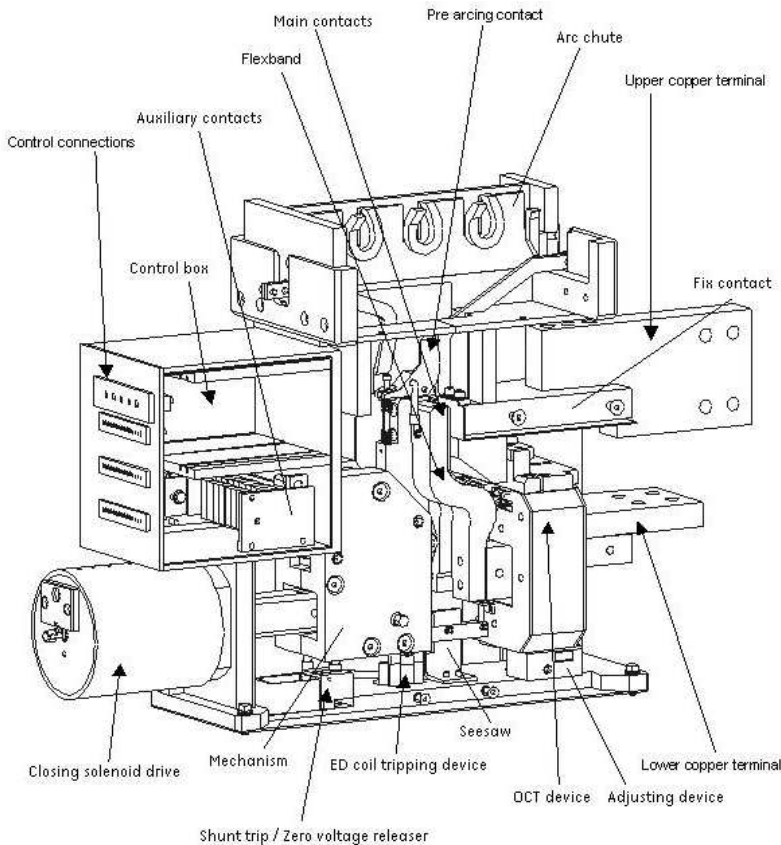

Fig. 4 Modular construction overview
- Gerapid breakers have a compact and enclosed construction [Fig. 4]. Gerapid is IP 00 protected. All parts are mounted on thick-walled, non-breakable and fireproof insulation panels.